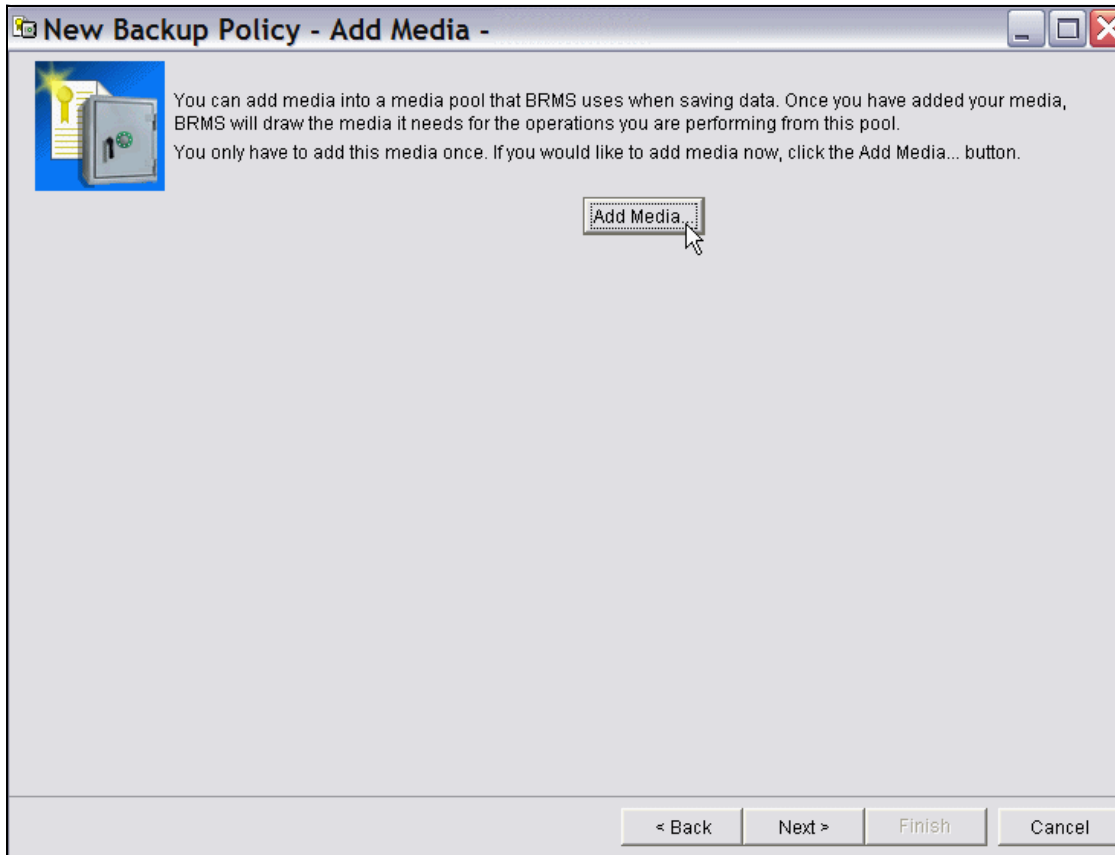

Figure 5-30 BRMS backup policy, add media
16. To add virtual volumes to BRMS, in the Add Media window displayed in Figure 5-30 on page 218, click **Add Media**.